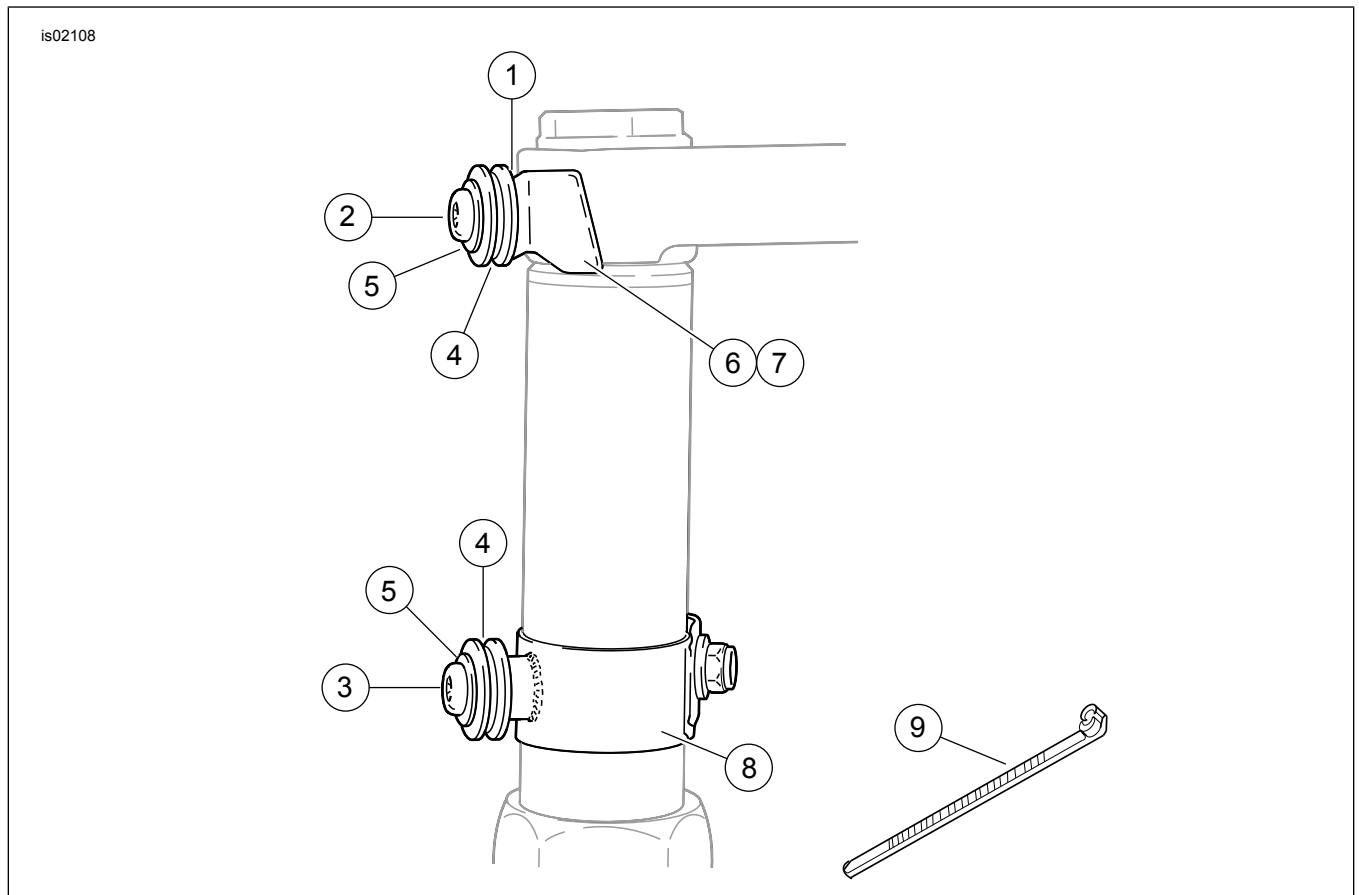
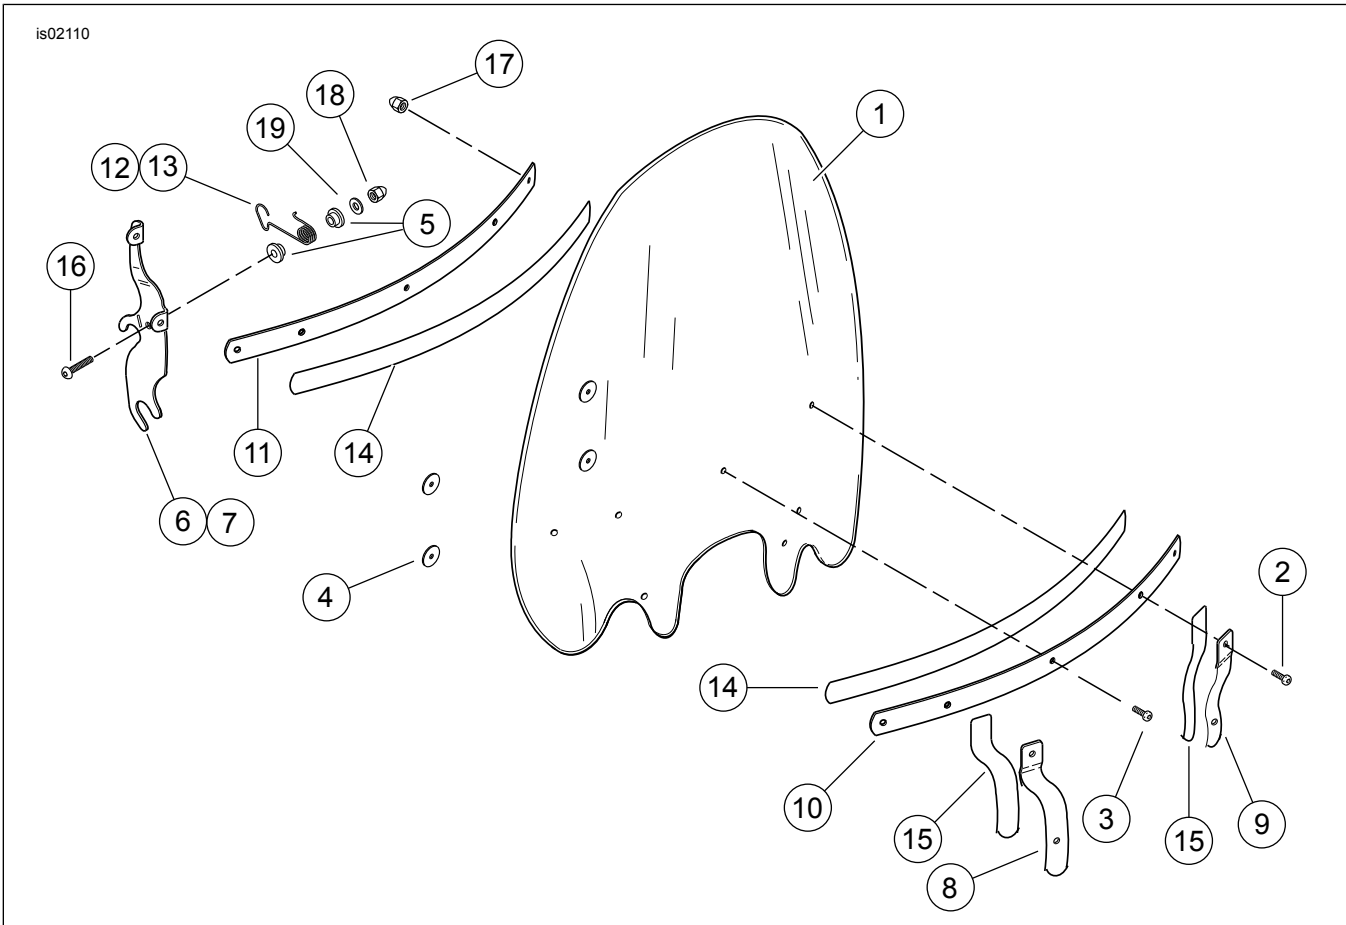

Figure 4. Service Parts: Docking Hardware Kit
Figure 5. Service Parts: Windshield Kit
See Figure 4 and Table 2, Figure 5 and Table 3.
4. See Figure 4. Assemble mounting hardware for lower windshield mounting. Assemble in the following order, and leave assembly loose:
- b. Place flatwasher (5) and bushing (4) on bolt (3) and install on clamp.
5. See Figure 5. Assemble hardware for upper windshield mounting as shown in illustration and tighten buttonhead screws to 20 Nm (15 ft-lbs). The spacer (1), not visible in the illustration, fits between the retainer wire bracket (6, 7) and the upper fork triple clamp.
6. Hook the two top windshield assembly "jaws" into the grooves of the top bushings (4, in Figure 4) then slide the lower clamp assemblies up until the lower bushings firmly fit into the lower windshield "jaws".
7. With windshield in place, tighten lower mounting clamp (8) hardware by first tightening clamp nut to 14 Nm (10 ft-lbs). Be sure the clamp does not rotate during tightening.